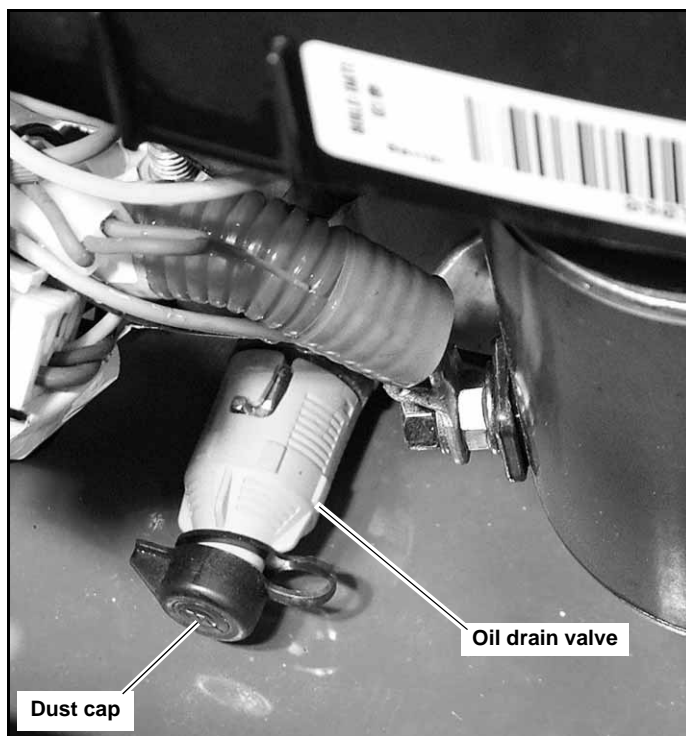

Figure 4-3
##### A. Draining the engine oil (units equipped with oil drain valve as shown in Figure 4-3):
3. Locate the oil drain hose that was supplied with the machine. Be sure to clean and clear it of debris that might block the flow of the engine oil. Figure 4-3